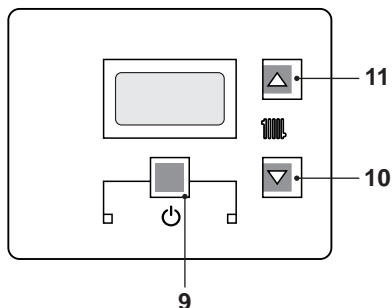
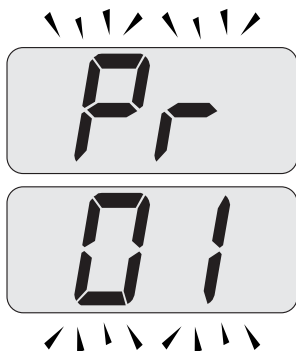

Fig. 8.3
Fig. 8.4
- Enter in "programming mode" by pressing keys 9 - 10 - 11 (Fig. 8.3) for 10 seconds at the same time until the letters **Pr** that alternate with code **01** are displayed on the LCD display, indicating that "parameter 01"(Fig. 8.4) has been activated.
- Press keys 9 and 11 (Fig. 8.3) at the same time until the value of parameter 05(00=G20) is displayed on the LCD display (Fig. 8.6).
- By pressing key 11 three times, it is possible to change the value of parameter 05 from **00**=G20 to **05**=G31, which is ok for LPG gas.
- By pressing key 9 (Fig. 8.3) confirmation of the inserted value is obtained.
- Press keys 9 and 10 (Fig. 8.3) at the same time to exit without changing the value (return to the parameters list Fig. 8.5)
- Press keys 9 - 10 - 11 (Fig. 8.3) at the same time for 10 seconds to exit the "programming mode".